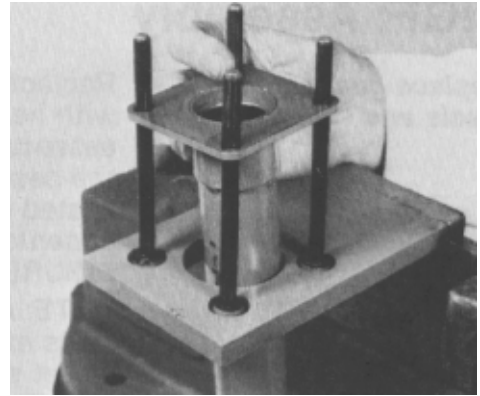

Figure 84
3. Put the upper cover and jacket on the four bolts with the jacket tube pointing down through the hole in fixture (Fig. 84). Make sure the square shoulder of the bolts engage the square holes in the upper cover.